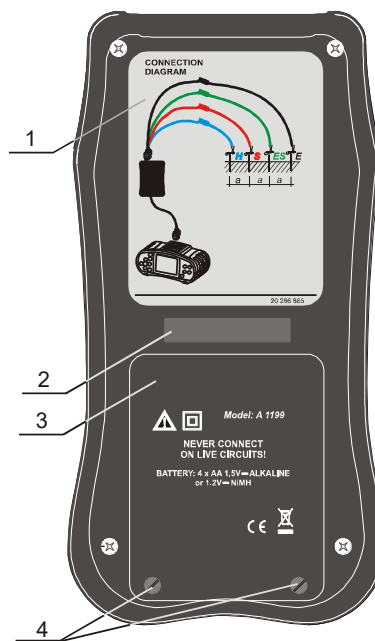

Figure 3.3:  $\rho$ -Adapter back site
- Put the  $\rho$ -Adapter on desktop with backside up (*figure 3.3*).
- Remove screws (*pos. 4* on *figure 3.3*).